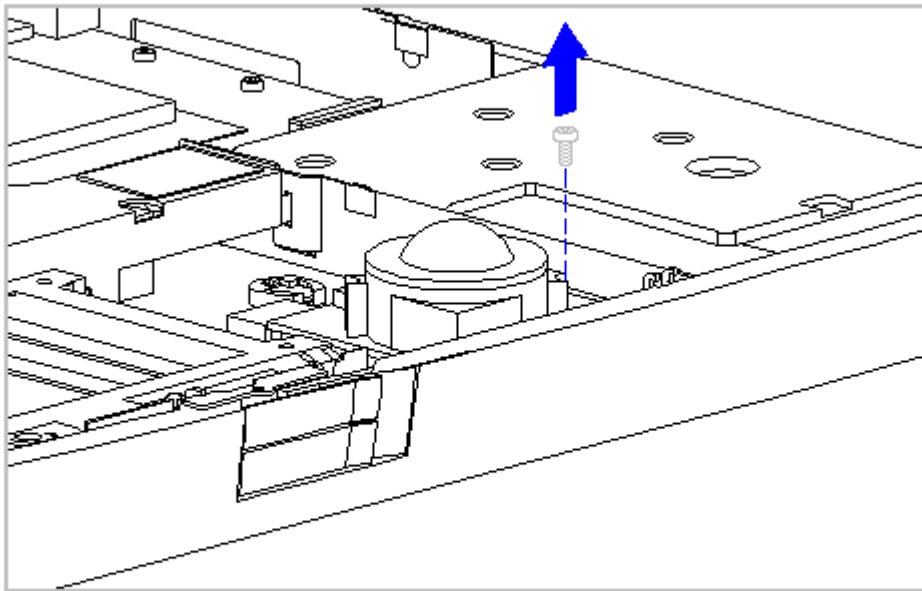

Figure 3-37. Removing the Screw from the Integrated Mechanical Trackball Assembly (Models 400 and 410)
3. Using a Torx T-8 or flat-bladed screwdriver, remove the screw from the front right-hand corner of the integrated mechanical trackball assembly (Figure 3-37).